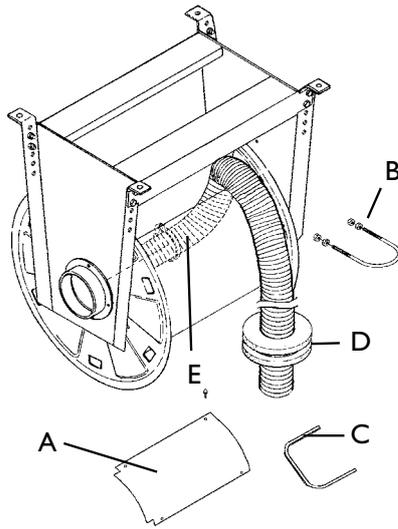

Fig. 5.1 Replacing the exhaust hose
- Uncoil hose completely and lock reel in its most extended position. See *Fig. 5.1* and follow the steps below.
- Dismantle edge list (C), drum lid (A), and clamp (B).
- Loosen hose clip (E) on the connecting socket and remove the old hose.
- Attach new hose, bend it into a natural soft curve and fasten it using clamp (B).
- Re-mount the drum lid (A).
- Re-mount the edge protection (C) at the opening of the drum where the hose protrudes. The reel is ready for use.